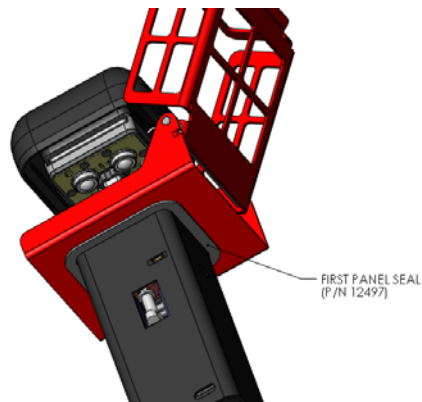
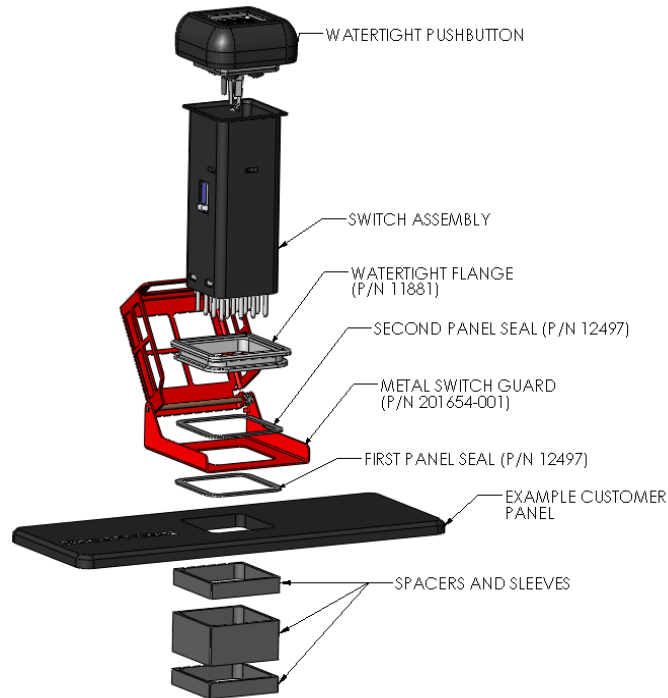

FIGURE 5 – VIEW OF FIRST PANEL SEAL
FIGURE 6 – COMPLETE STACKUP OF COMPONENTS TO AID IN REASSEMBLY IF NECESSARY
- WITH THE SPACERS DISASSEMBLED FROM THE SWITCH, NOTE WHERE THE FIRST PANEL SEAL IS. SEE FIGURE 5. THIS PANEL SEAL WILL INTERFACE TO THE TOP SIDE OF THE CUSTOMER'S PANEL DURING INSTALLATION. FIGURE 6 SHOWS THE COMPLETE PART STACK UP IF ALL COMPONENTS ARE REMOVED PRIOR TO INSTALLATION. THIS IS NOT RECOMMENDED, HOWEVER IF COMPONENT REMOVAL OCCURS, THIS FIGURE WILL BE USED TO CORRECTLY REASSEMBLE THE STACK UP AS NECESSARY. (EXAMPLE CUSTOMER PANEL SHOWN FOR CLARITY).